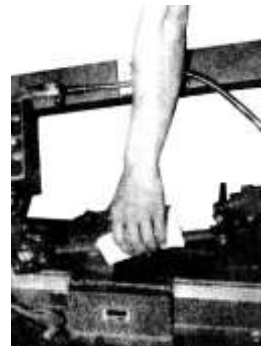

Fig. 12
- a. The blade should still move up and down freely when grasped (Fig. 12).